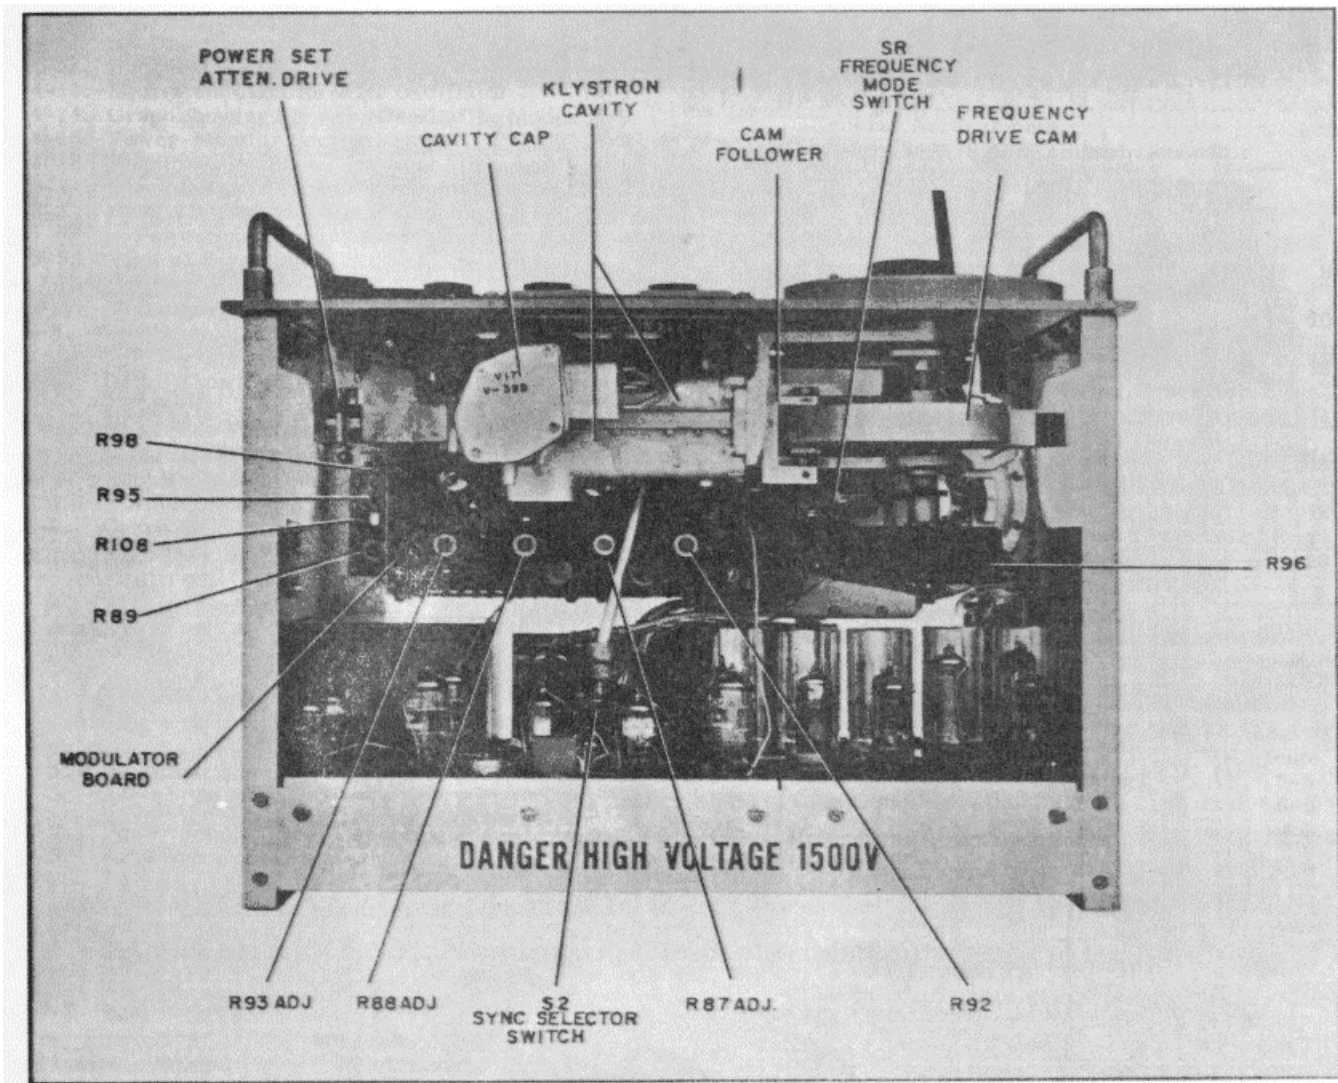

Figure 5-10. Top View Showing Location of Reflector Tracking Pots
- f. Set potentiometers R89 and R95 (Figure 5-10) to approximate center of range over which they can be rotated. These two controls are located on an insulated bracket mounted on the bottom edge of modulator assembly.
5-48. INITIAL TRACKING PROCEDURE. Refer to Figure 5-10 and proceed as follows: